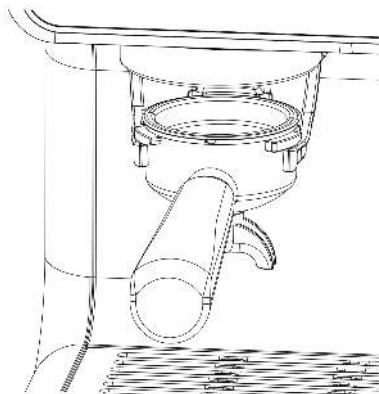

**Fig. 5**
4. As shown in Fig. 5, place the Portafilter into the grounds-receiving bracket.